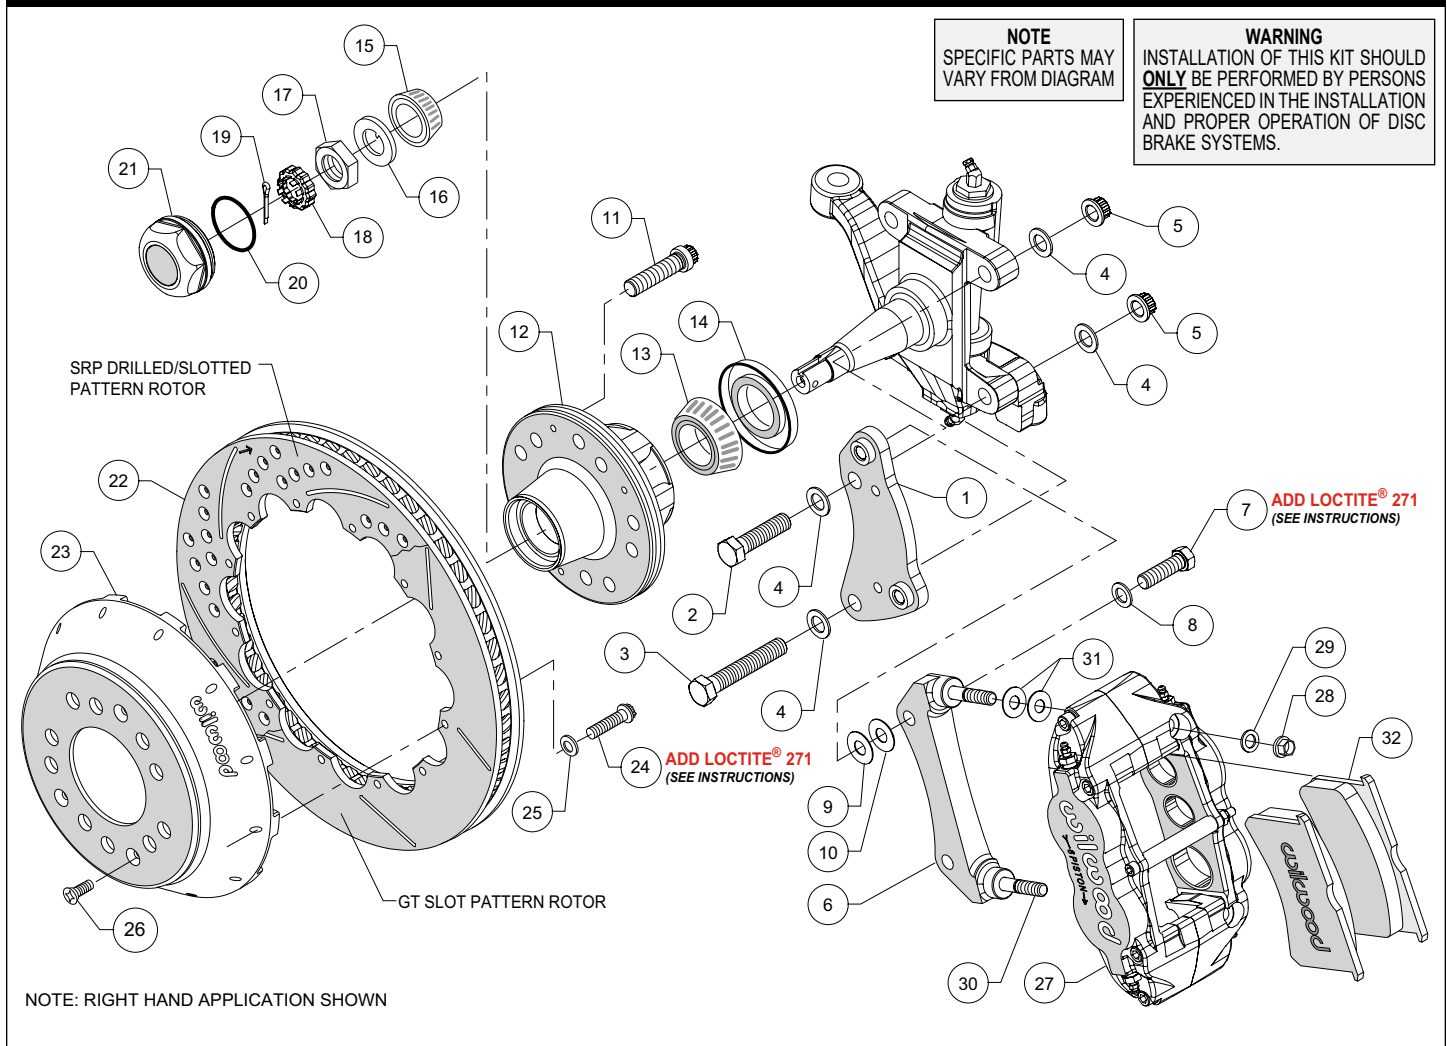
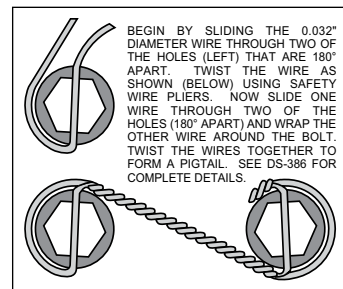

Figure 1. Typical Installation Configuration
Figure 3. Safety Wire Diagram
NOTE: Numbers in parenthesis refer to the parts list and Figure 1 on the preceding pages.
- Orient the spindle bracket (1) as shown in Figure 1 and Photo 1, and install using bolts (2 and 3), washers (4) and nuts (5). Temporarily tighten the mounting bolts. Ensure that the flanged heads of the clinch nuts in the bracket are facing outboard, Photo 1. **NOTE:** The bracket must fit squarely against the mount bosses on the upright. Inspect for interference from casting irregularities, machining ridges, burrs, etc. Torque lock nuts (5) to 65 ft-lb.
- The caliper mount radial bracket (6) should initially be installed with clean, dry threads on the mounting bolts. Orient the bracket as shown in Figure 1, and Photo 2. Install onto the spindle bracket using bolts (7), and washers (8). Initially place one .030 thick shims (9) on each bolt between the radial and spindle brackets, Figure 1. Temporarily tighten the mounting bolts. Later, after the caliper alignment has been checked, the mount bolts will be secured using red Loctite® 271.
- Install wheel studs (11) into the hub (12), Photo 3. Torque to 77 ft-lb. **NOTE:** There are two five lug patterns in the hub (5 x 4.50 and 5 x 4.75). Ensure the correct hub stud pattern is being used to fit the wheel application.
- Pack the large inner bearing cone (13) with high temperature disc brake bearing grease (available from your local auto parts store) and install into the backside of the hub (12), Photo 4.
- Install the grease seal (14) by pressing into the backside of the hub (12), flush with the end of the hub, Photo 5.
- Pack the small outer bearing cone (15) with high temperature disc brake bearing grease and install into the front side of the hub (12), Photo 6. Slide the hub assembly onto the spindle. Secure using spindle washer (16) and spindle nut (17). Adjust bearings per OEM specifications. Install spindle nut retainer (18) and cotter pin (19), Photo 7.
- Screw dust cap (21) into hub (12), Photo 8. Friction created by the o-ring (20) on the dust cap keeps it from unscrewing. **NOTE:** The O.D. of the existing OEM spindle washer may be larger than the I.D. of the dust cap not allowing it to seat against the hub face. Therefore, use the spindle washer (16) supplied with the kit instead of the OEM washer.
- Orient the rotor (22) and the hat (23) as shown in Figure 1 and Photo 9. Attach rotor to hat using bolts (24) and washers (25). Apply red *Loctite*® 271 to the bolt threads and torque to 155 in-lb using a criss-cross pattern. For an added measure of security, the bolts may be safety wired using standard 0.032 inch diameter stainless steel safety wire as shown in Figure 3. Refer to Wilwood's data sheet DS-386 (available at www.wilwood.com/Pdf/DataSheets/ds386.pdf) for complete safety wire installation instructions.
- Slide the hat/rotor assembly (23/22) onto the hub (12) taking care to align the small countersunk holes in the hat with the small threaded holes in the hub, Photo 10. **NOTE:** The hat must fit flush against the hub face or excessive rotor run out may result. Install three flat head screws (26) through the small holes in the hat, and torque to 85 in-lb.
- NOTE:** This kit contains distinct right and left hand calipers that must be mounted in a specific direction, as described below. Initially place two .035" thick shims (31) on each stud (30) between the caliper and the bracket, as shown in Figure 1 and Photo 11. Mount the caliper (27) onto the bracket (6) using lock nuts (28) and washers (29), Figure 1. Ensure that the caliper is mounted so the largest pistons are at the rotor exit end of the caliper, in relation to the direction of rotor rotation. Temporarily tighten the lock nuts and view the rotor through the top opening of the caliper. The rotor should be centered in the caliper, Photo 12. If not, adjust by adding or subtracting shims (9 and/or 10) between the spindle bracket (1) and the caliper mount bracket (6). Always use the same amount of shims on each of the two mounting bolts (7). Once the caliper alignment is correct, remove